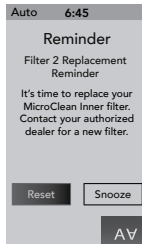

Figure 15.0e
23. **MicroClean Inner Filter Reminder:** This message will appear when the filter reminder time has expired (Figure 15.0e). The MicroClean Inner filter must be replaced.